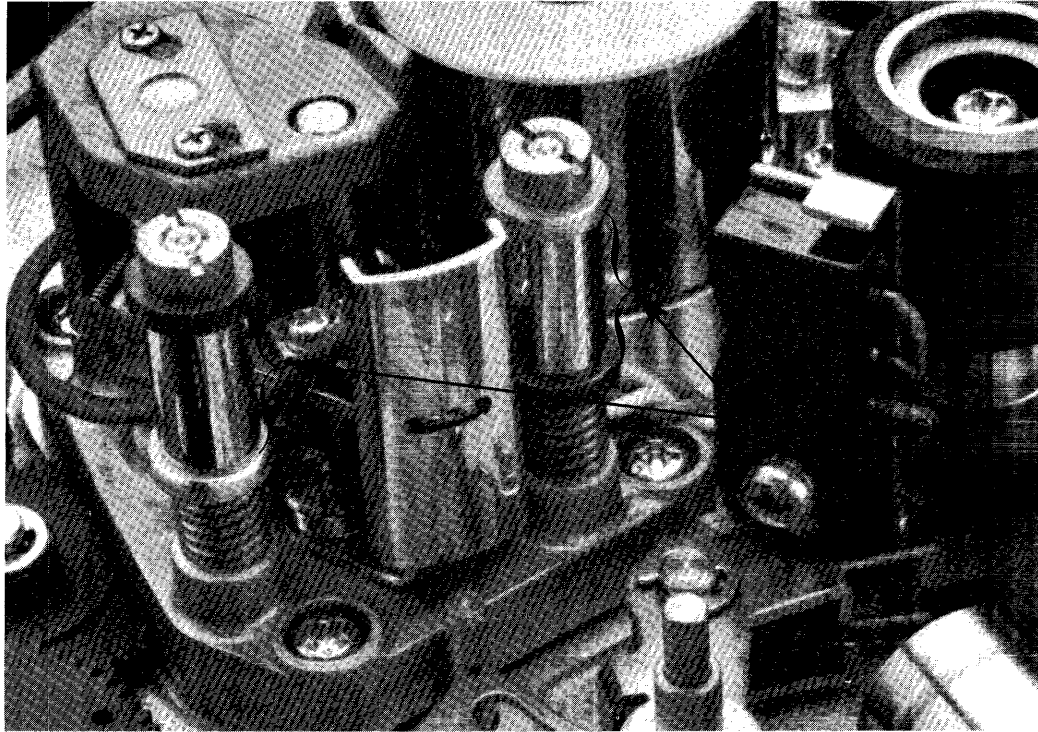

Figure 5-2. Tracking Area Guides
Several parts of the tape drive mechanism guide the tape as it moves through the capstan and read/write head areas. These parts should be cleaned during preventive maintenance or any time tape jamming occurs. Cleaning should be performed with cotton swabs and a commercial head cleaning solution. Refer to figure 5-2 and 5-3 for locations to be cleaned. **CLEAN ONLY THE POINTS SHOWN.**
2. Clean both under roller guides as shown in figure 5-2. While cleaning the rollers, turn them through their entire rotation to insure that the entire surface of each roller is cleaned. Wipe dry with a clean cotton swab.